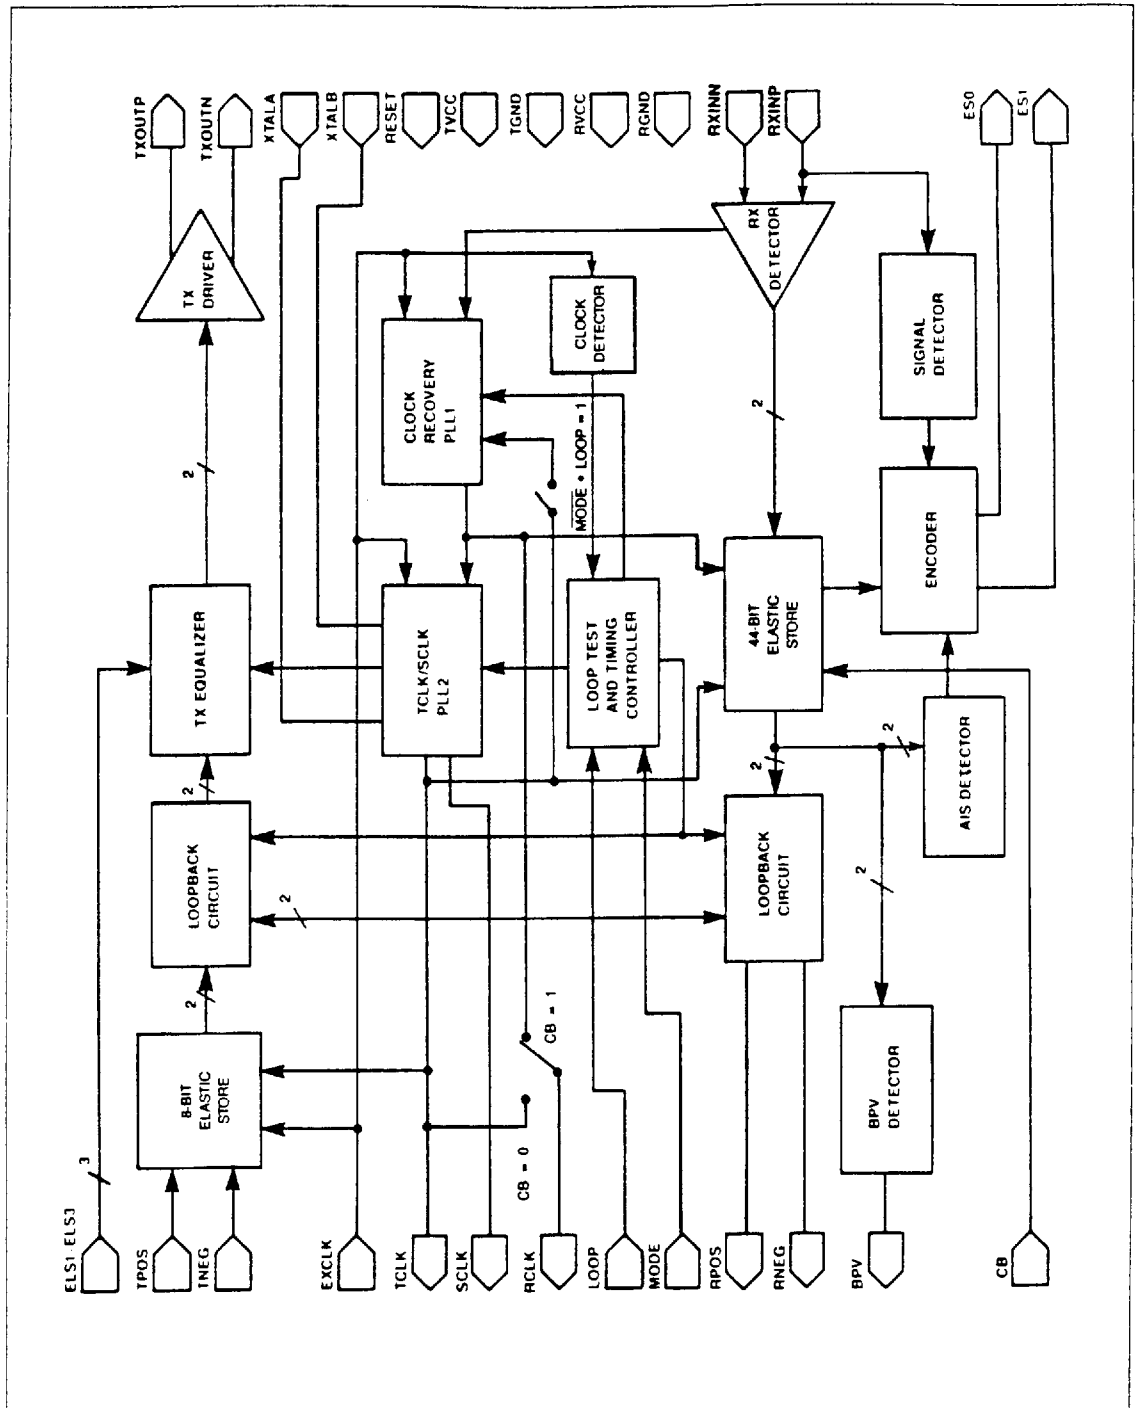
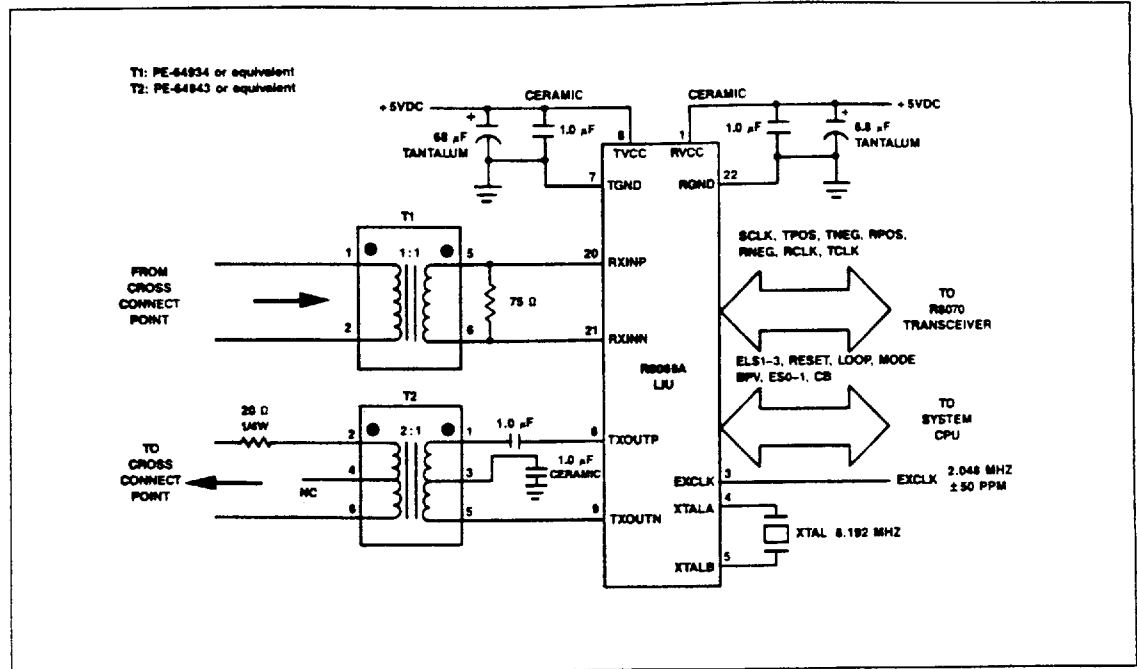

Figure 4. R8069A LIU Functional Block Diagram
Figure 5. Connection to 75 Ohm CEPT Coax Cable
The R8069A LIU contains both analog and digital circuitry which independently process transmit and receive primary rate voice or data information. Circuitry to provide master, slave, local loopback, remote loopback, and their derivatives is also included. A simplified block diagram of the R8069A LIU is depicted in Figure 4. Typical R8069A LIU connections in CEPT and T-1 applications are shown in Figures 5, 6, and 7.
Three encoded inputs, ELS1-ELS3, allow selection of cable length equalization and clock rates (Table 2). Equalization of cable length of 0-660 feet in increments of 110 feet is selectable for T-1 line. A 20 Ω resistor is required to be connected in series with 75 Ω coaxial cable connector (see Figure 5).
2. See Figures 5 and 6.
3. If the selected equalization line code is ELS3 = H, ELS2 = H, and ELS1 = L, then a 20 Ω resistor is required at the line side of the transmit transformer (see Figure 5). This is the recommended mode for proper operation in a 75 Ω PCM30 application.